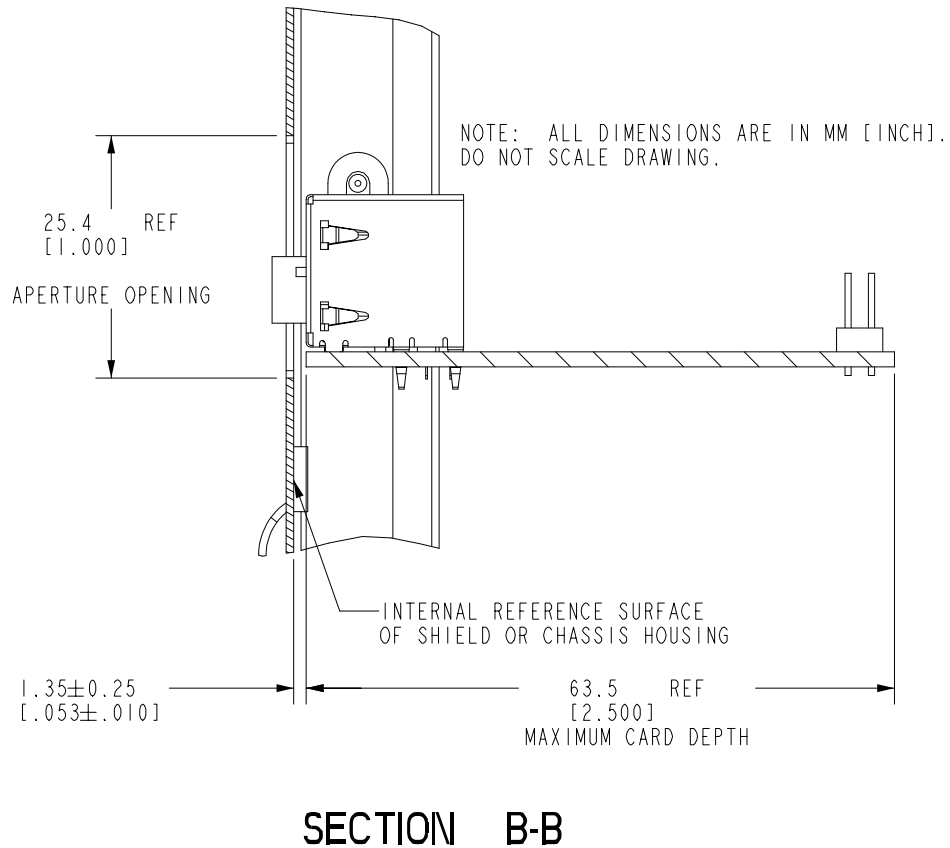
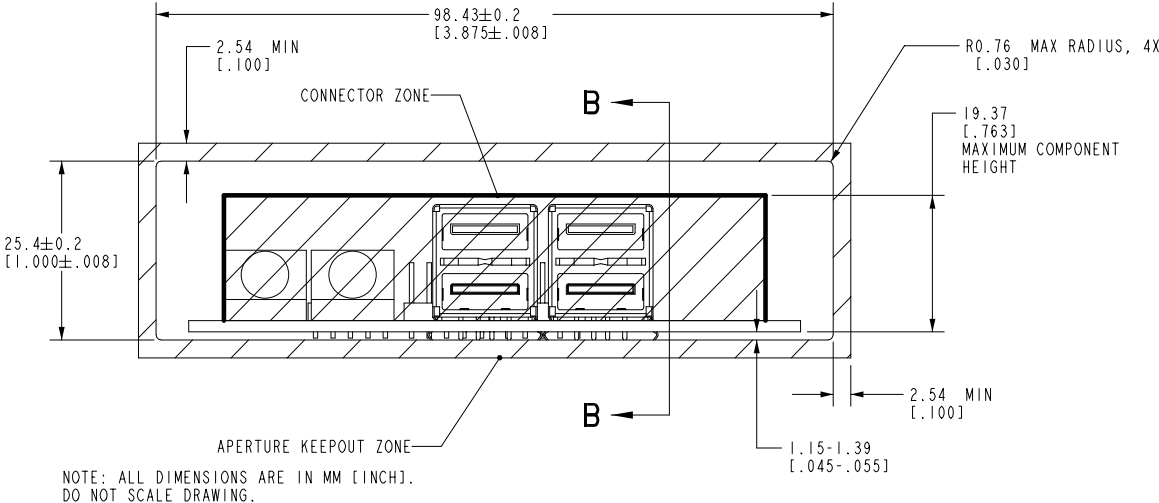
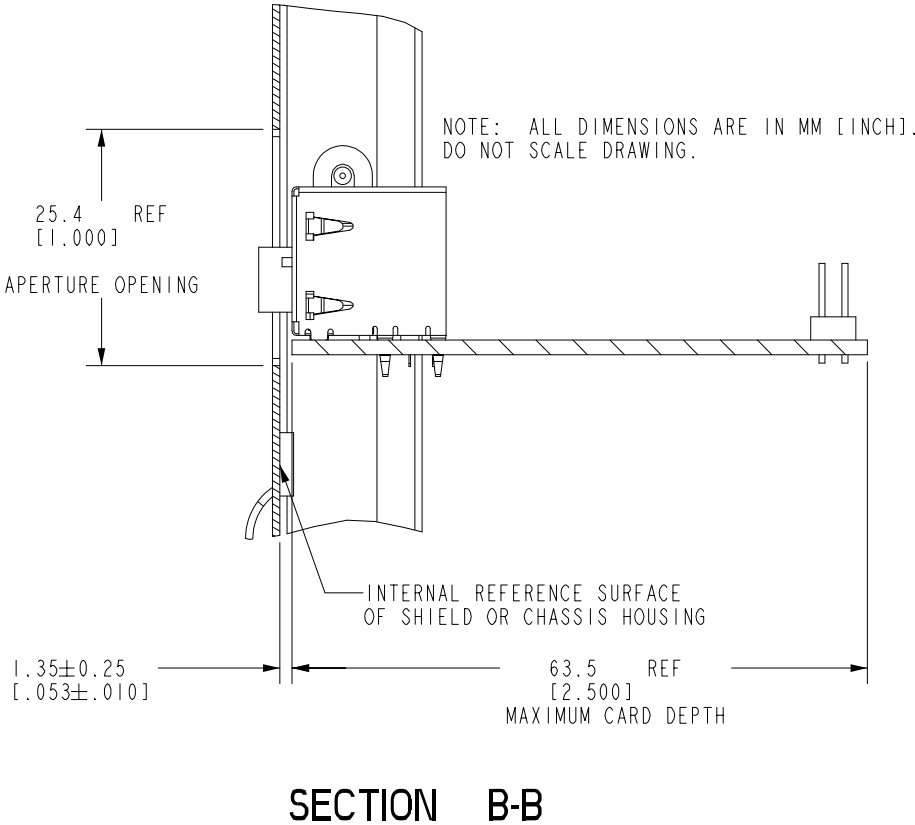

Figure 19. Front Panel I/O Interface Board Placement Recommendations
Figure 22. Front Panel I/O Aperture and Interface Board Placement Recommendations
Figure 23. Front Panel I/O Interface Board Placement Recommendations
Figure 19 shows the front panel I/O board interface recommendations. The face of the front panel I/O board edge should be placed  $0.053 \pm 0.010$  inch ( $1.35 \pm 0.25$  mm) from the inside of the chassis front panel I/O shield and/or chassis housing. The connectors shown here are only examples.
No components, connectors or other features should be placed within the keepout zones. The maximum component height on the primary component side of the board (including board thickness) is not to exceed 0.763 inch. (19.37 mm). The maximum component height on the secondary side of the board is not to exceed 0.043 inches (1.09 mm). If the keepout zones are violated, the board forfeits compatibility with the front panel I/O board-compliant chassis as detailed in Figure 18 and Figure 19.
For the best EMI attenuation and proper grounding performance, board connector placement should be limited as shown in Figure 18 and Figure 19 to allow enough clearance between the connectors and the chassis opening for the I/O shield and/or front I/O housing structures. The indented notches provided in the board definition may be used for a screw-less and/or clip retention method.
*Figure 18 and Figure 19 are repeated as Figure 22 and Figure 23 in this chapter for convenience only.*
As shown in Figure 22, the bottom of the front panel opening is located 0.045 to 0.055 inches (1.15 to 1.39 mm) below the bottom of a typical, 0.062 inches (1.57 mm) thick board. Also, a 0.1 inches (2.54 mm) minimum keepout zone has been defined around the perimeter of the aperture area, on both inside and outside surfaces of the chassis front panel. The keepout zone provides a reserved space that can be used to attach a chassis-independent front I/O shield into the chassis front panel. No slots, tabs, notches, or other topographical features should be placed within the keepout zone. Interface board connector placement should be limited as shown in Figure 22 and Figure 23 to allow enough clearance between the connectors and the chassis opening for the I/O shield.
It is strongly recommended for the best EMI attenuation performance, paint should not be applied within the 0.1 inches (2.54 mm) minimum keepout zone on the inside and outside surfaces of the chassis front panel (Figure 22). Paint can prevent proper grounding of the I/O shield to the front chassis panel. The list below shows some front panel I/O board highlights.
- Cutout size = 3.875 +/- 0.008 inches (98.43 +/- 0.20 mm) wide by 1.00 +/- 0.008 inches (25.4 +/- 0.20 mm) tall. See Figure 22.
- Distance from bottom of typical 0.062 inches (1.57 mm) thick board to bottom of I/O cutout hole = 0.045 to 0.055 inches (1.14 to 1.39 mm). See Figure 22.
- The corners of the I/O aperture can be rounded to a maximum radius of 0.030 inches (0.76 mm) as shown in Figure 22. This allowable rounding of the corners helps chassis manufactures extend the life of their hard tooling while still complying with this guide.
- The 0.1 inches (2.5 mm) minimum keepout zone around the I/O aperture area is used in a front panel I/O interface board compliant chassis (see Figure 22). This allows front panel I/O interface board- compliant I/O shields to fit into front panel I/O interface board compliant chassis. The keepout area is used for the shield attachment points. Avoid paint application in the area.
- The face of the Front Panel I/O board edge should be placed 0.053 +/- 0.010 inches (1.35 +/- 0.25 mm) from the inside of the chassis front panel I/O shield and/or chassis housing, as defined in Figure 23.
Figure 22 and Figure 23 detail the I/O connector zone. Compliance with this recommendation is necessary to ensure enough clearance between the chassis aperture and the front panel I/O interface board connectors for the I/O shield structure. This recommendation may be waived if the shield provided with the board requires less than the recommended clearance. It is recommended that system designers implement a universal design that would support a standard front panel I/O aperture opening, as shown in Figure 22. To retain maximum flexibility, the exact positioning and configuration of the connectors within the I/O connector zone is left to the discretion of the designer. Connectors shown in Figure 22 are a reference design and are shown here only as an example. Though it is not recommended for reasons of flexibility, a system designer may choose to implement an integrated chassis housing and I/O shield to support and secure the front panel I/O interface board. Then a supplied I/O shield may not be required.
Figure 25 shows an example of a standard I/O shield reference design. It is provided here as only a reference for key features that may be used to design and secure front panel I/O shields into a standard front panel I/O aperture opening. See Figure 18 and Figure 19 for recommended dimensions of the front panel aperture and interface board placement.